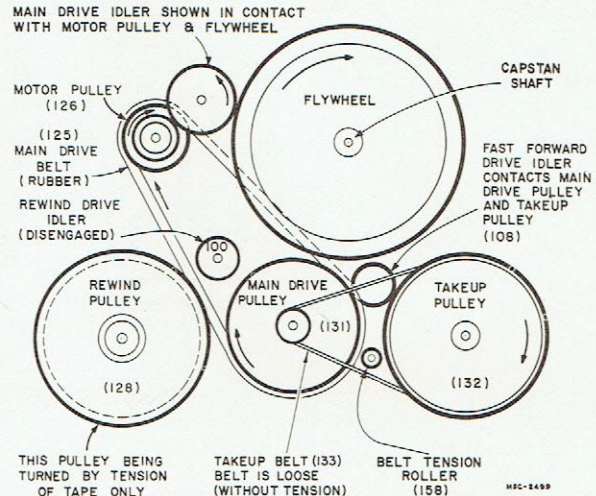

Figure 4—Diagram of Mechanical Drive System—
When the "FAST →" pushbutton (19) is depressed, the pushbutton cam pushes the fast forward drive idler slide (104) to the rear, forcing the idler roller (108) into contact with both the main drive pulley (131) and the takeup drive pulley (132). This drives the takeup drive pulley at a fast speed. Refer to figure 4.
1. Refer to figures 4, 5 and 6. Check capstan (50) pressure roller (47) idler wheel (66) main drive pulley (131) and main drive belt (125) for presence of oil or foreign material. Clean contact surfaces with cleaning fluid.
2. Check setscrews in motor pulley (126) and flywheel (135) for tightness.
3. Check pressure roller arm tension spring (76). Pressure roller must have sufficient force on capstan (50) to require 32 ounces tension on tape before slippage occurs when either PLAY pushbutton is latched.
4. Check slides (67 and 68) for freedom of movement and slide tension springs (62) for tension.